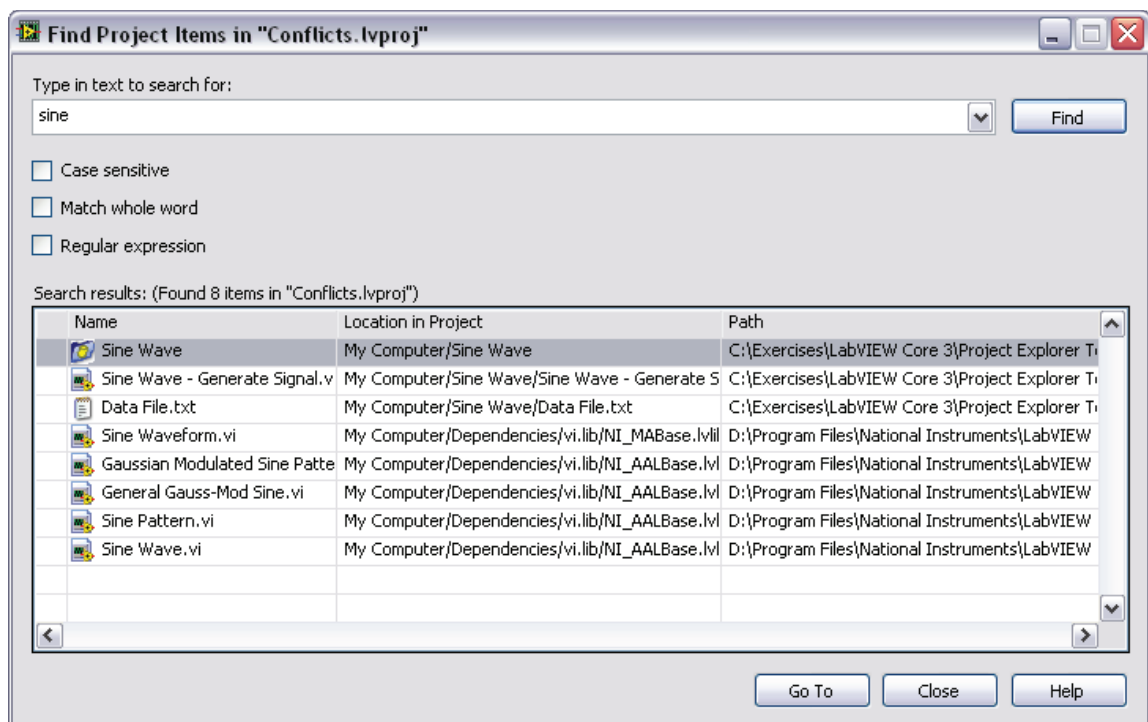

Figure 4-9. Find Project Items Dialog Box
- ☐ In the **Find Project Items** dialog box, enter sine in the textbox, as shown in Figure 4-9, and click **Find**.